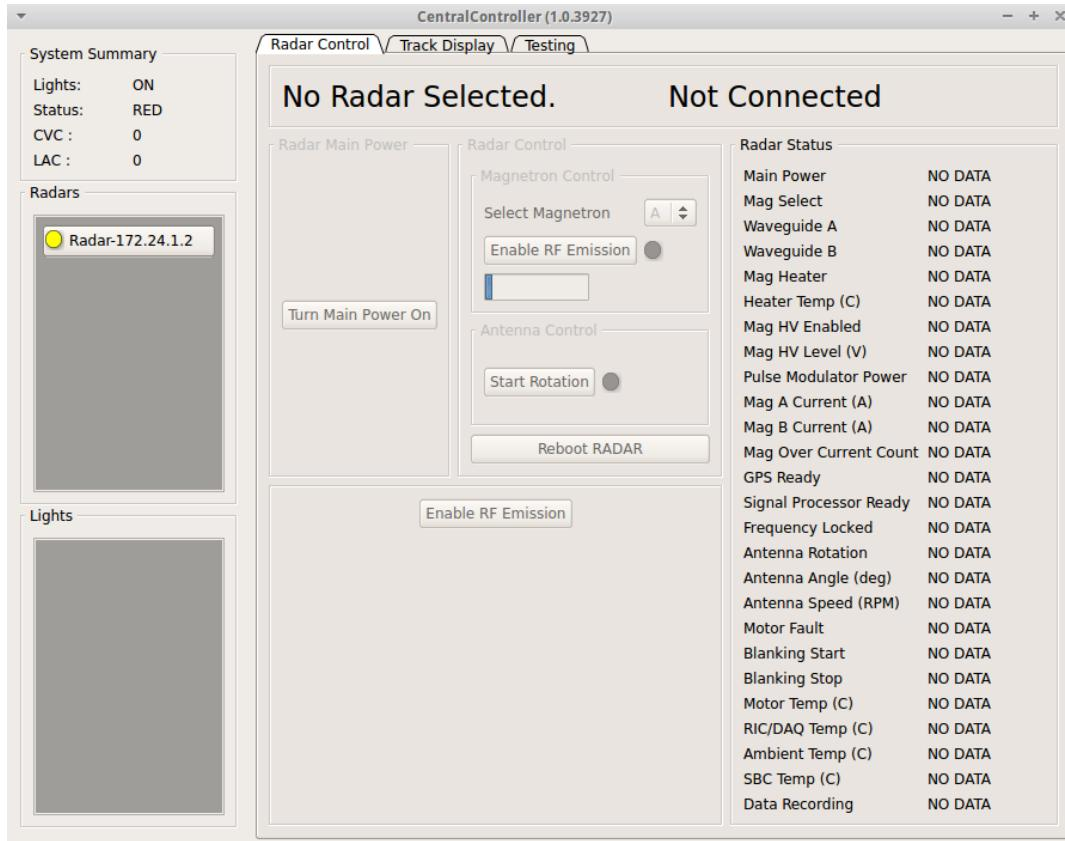

Figure 7. Screenshot showing the Radar Control GUI before it makes a communications connection with a Radar.
b. The program will initially display a new Radar Control GUI screen similar to Figure 7, with status as ***“Not Connected”*** until a Radar Processor connects.